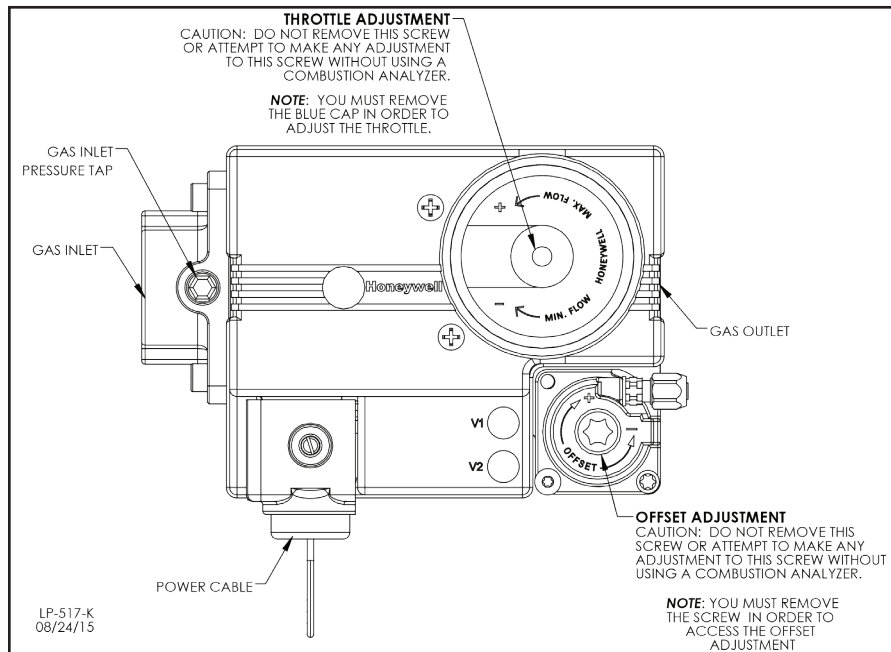

Figure 28 - Gas Valve - If Necessary, Use #40 Torx to Adjust Offset and Hex to Adjust the Throttle
2. Loosen the pressure tap with a small screwdriver. Refer to Figure 28 for location.